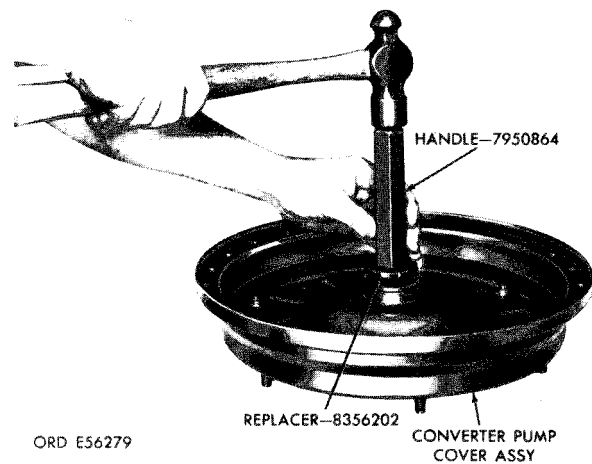
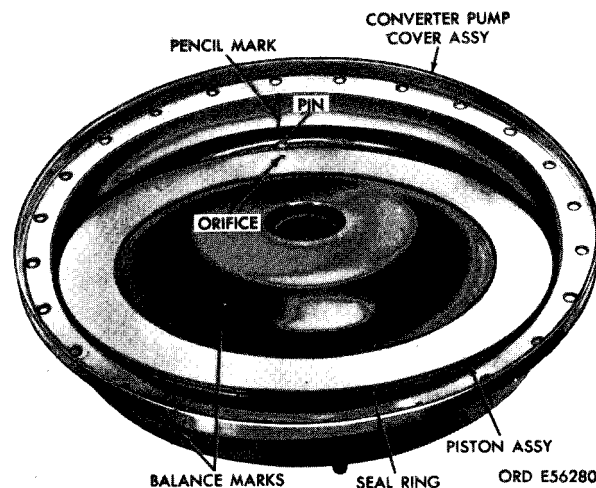

Figure 5-57. Installing bushing into hub of converter pump cover using handle 5120-316-9182 (7950864) and replacer 5120-572-8656 (8356202).
Figure 5-58. Positioning lockup clutch piston assembly for installation.
(1) If bushing (5) in converter pump cover hub was removed, use replacer 5120-572-8656 and handle 5120-316-9182 (fig. 5-57) to install new bushing.
(2) Install seal retainer (6) on converter pump cover (4) hub with larger diameter toward open end of cover. Install oil seal ring (7).
(3) Install piston seal ring (10) in groove of lockup clutch piston (8) outside diameter.
(4) Insert lockup clutch piston (fig. 5-58) into converter pump cover with stamped balance marks (if any) alined so that piston guide pins will enter nearest holes in piston.
To make installation of lockup clutch piston assembly easier, put a pencil mark in line with pin nearest orifice in piston (when balance marks are alined as in figure 5-58). Then, when piston assembly is being installed, use pencil mark as a guide to location of pin beneath orifice. One recessed hole in piston is concentric with orifice. Rotate piston slightly, if necessary, during installation to insure that piston engages pins. To make certain that piston is properly seated, measure distance from pump cover mounting surface to piston; this distance should be approximately 1½ inches.